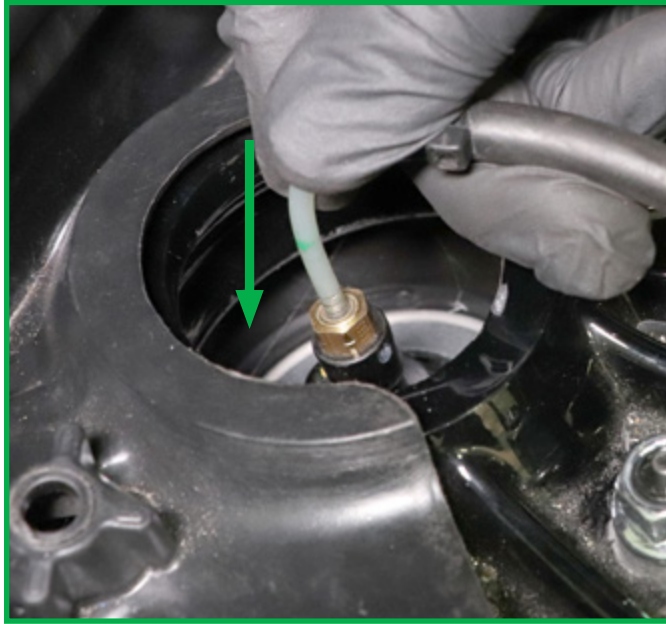

FIGURE 27
8. Push the air line into the air fitting on the top of the strut until it is fully sealed/seated. (Figure 27)